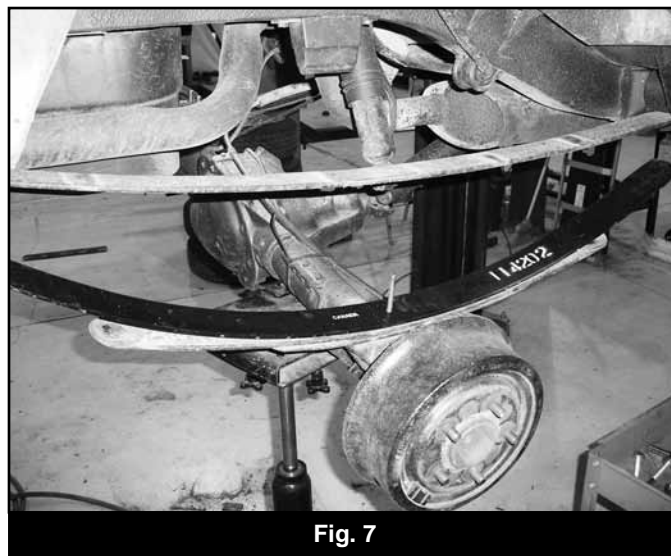

Fig. 7
40. Place the provided new leaf (114202R) in between the 2nd and 3rd leaf in the factory leaf pack. The leaf lengths get shorter as they go from the top leaf in a pyramid shape (Fig 7). Install a new center pin (560312FCP) into a new 5/8" block (01201) and install the pin into the bottom OE leaf and new leaf center pin hole so that the block is at the bottom.